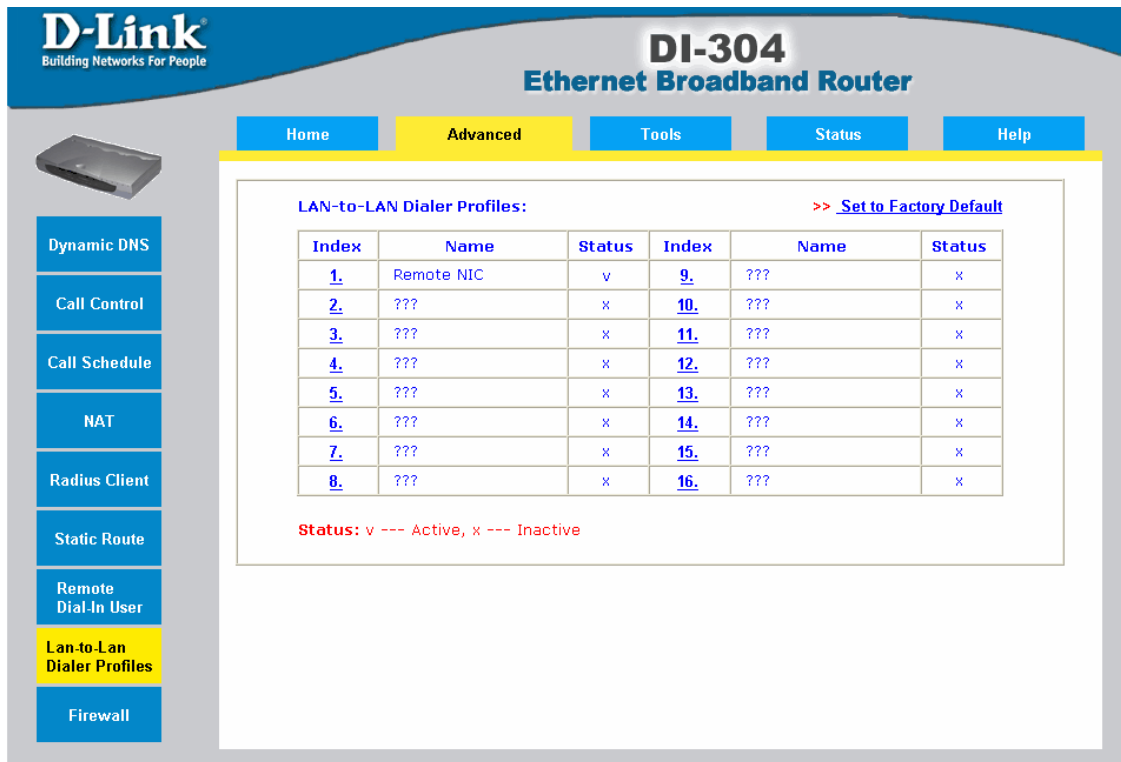

Figure 31: Enabling Lan-to-Lan Dialer Profiles in Router 2
6. Also in this router a LAN-to-LAN profile is created (Figure 31).